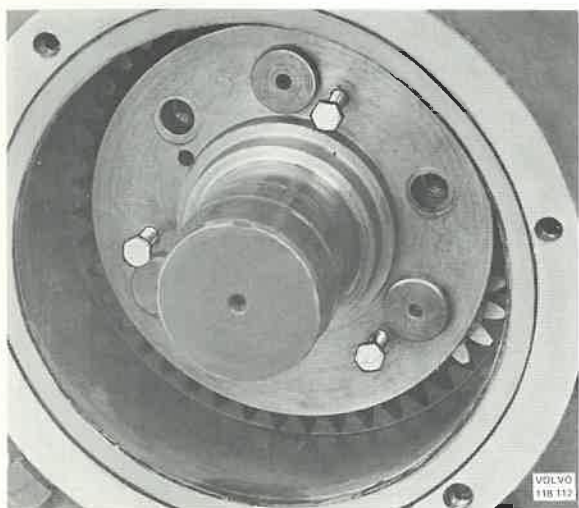

Fig. 92-47. Removing the cover
5. Pull off the cover with the help of three bolts (M6 with 30 mm = 1.2 in. thread length), see Fig. 92-47.